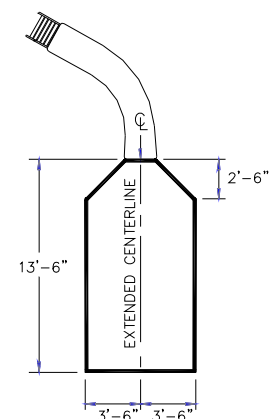

Figure 27
- 7) Ensure that the exit runway surface does not exceed 20 inches above the water surface, nor less than 8 inches above the deck/coping surface (see Figure 27 on page 18). The exit runway surface is measured at the point of transition between the runway and the beginning of the exit end radius.
- A. The minimum clearance distance on either side of the extended centerline of the slide runway shall not be less than three feet six inches (3'-6") at a point no less than two feet six inches (2'-6") from the exit of the slide and extending a distance of thirteen feet six inches (13'-6") in front of the slide. (See Figure 27)